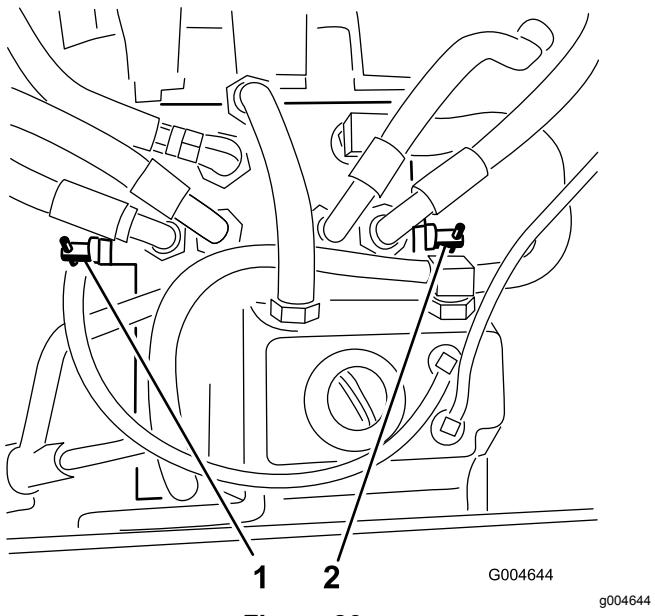

Figure 26
- Locate the bypass valves (Figure 26) and rotate each bypass valve counterclockwise 1 turn.
4. Close the valves by rotating each valve 1 clockwise turn (Figure 26).